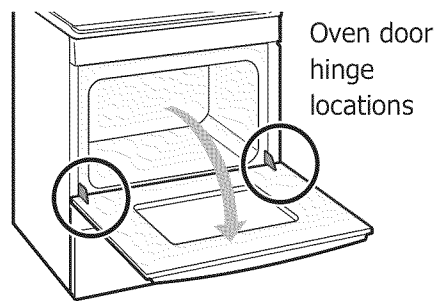

Figure 42: Door hinge location
1. Open oven door completely, horizontal with floor (See Figure 42).
3. Fully open the oven door, horizontal with floor (See Figure 42).